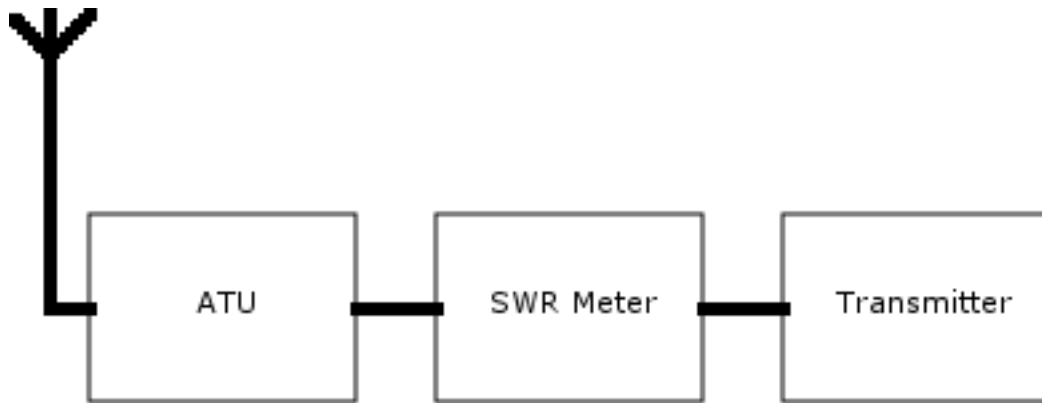

Fig 1 – Connection of ATU, SWR Meter and Transmitter
- 13.2 The waves travelling up the feeder mix with reflected waves coming down the feeder and form standing waves. A Standing Wave Ratio (SWR) meter can measure this and allow the operator to adjust the antenna or ATU for the minimum reflected power. Fig. 1 (below) shows the correct setup for this.